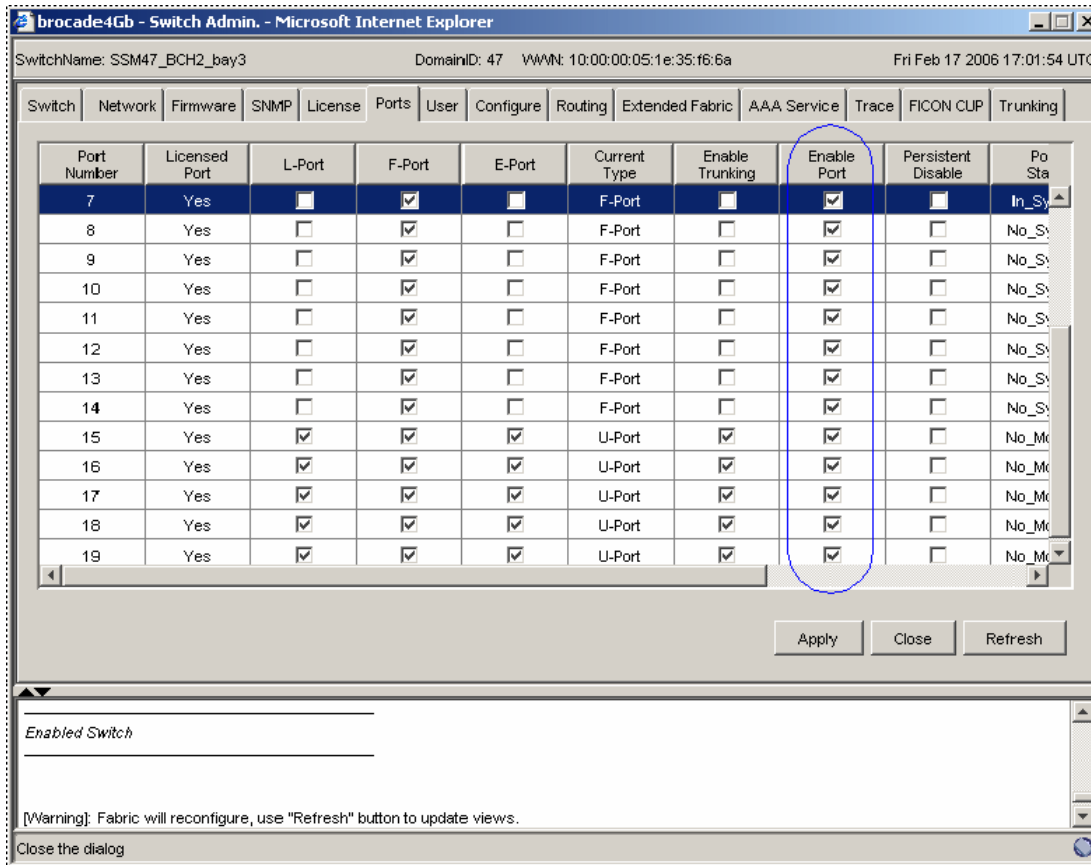

Figure 5-19 Enabling newly added Ports
- b. Go to Brocade Web Tools and the Ports tab (Figure 5-19) under Admin.